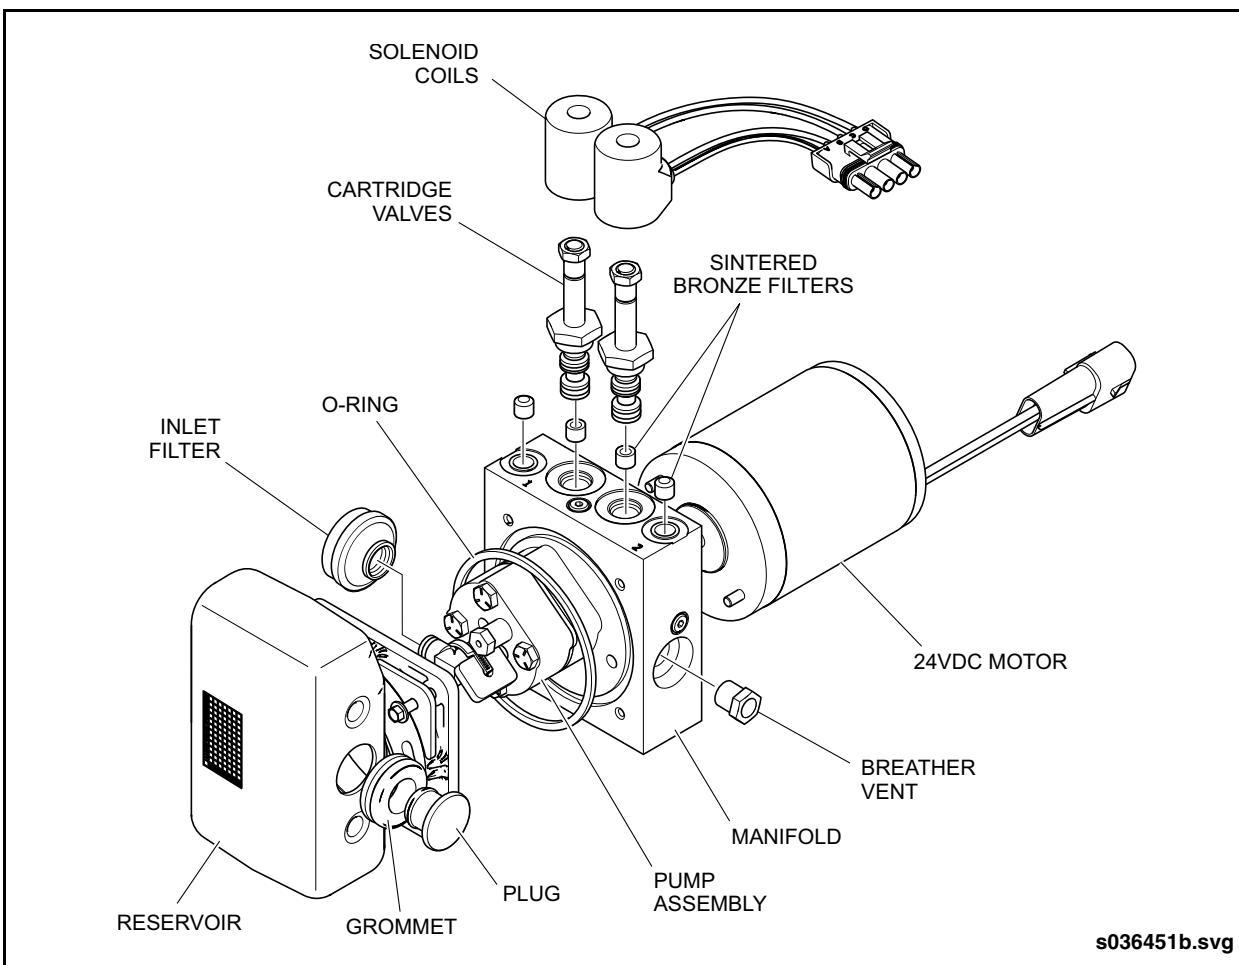

Fig. PM-43: Hydraulic Power Pack Assembly
5. Inspect filters and screens. Refer to 2.28.6.2. "Screen & Filter Inspection" on page 95 in this section for replacement procedure. See "Fig. PM-43: Hydraulic Power Pack Assembly" on page 95.